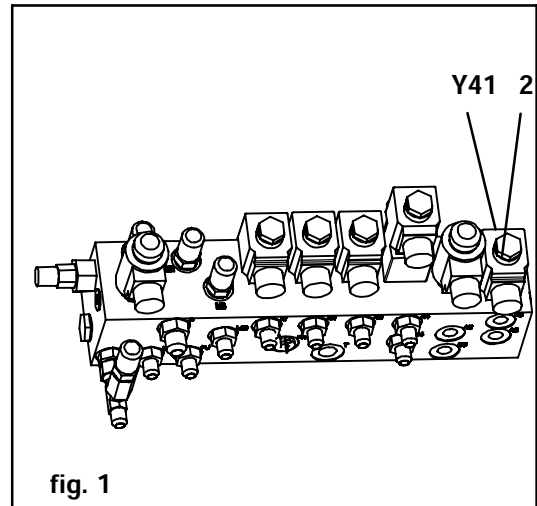

fig. 1
- Disconnect the parking brake solenoid Y41 (1) from the valve block. After this, the parking brake will stay engaged (fig. 1).
- If necessary, adjust the pressure with adjusting screw CH1 (fig. 1).
- Fit the solenoid into the valve and tighten the lockscrew (2) hand tight.
- Disconnect the parking brake solenoid Y41 from the valve block (1). After this, the parking brake will stay engaged.
- Connect 60 MPa (8700 psi) pressure gauges to measuring points MH2 (forward) and MH3 (reverse) (fig. 1).